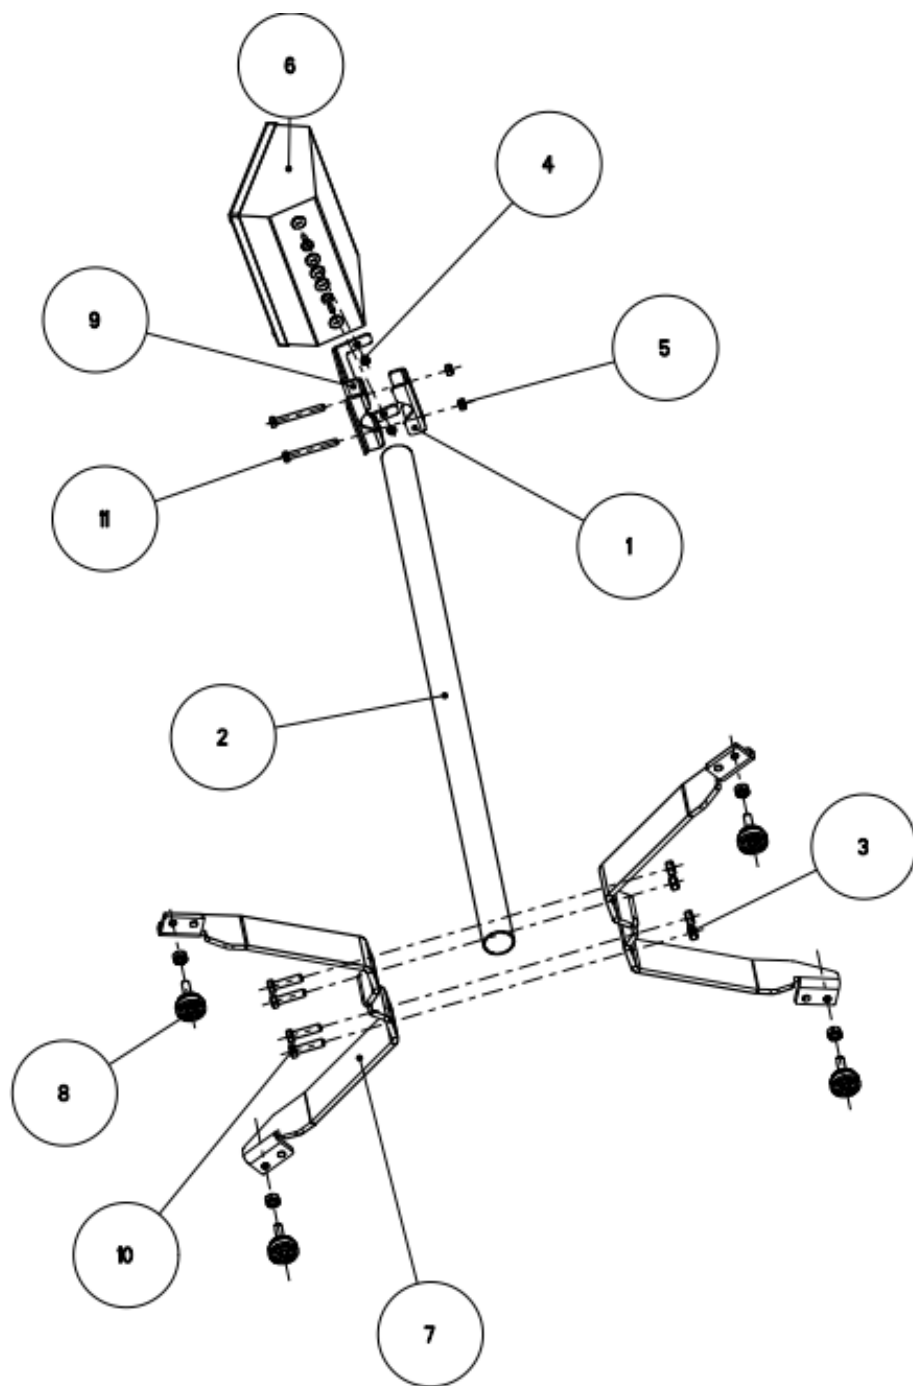

FIG.1
2.1 INSTALLING THE CSP38I COLUMN (FIG.1)